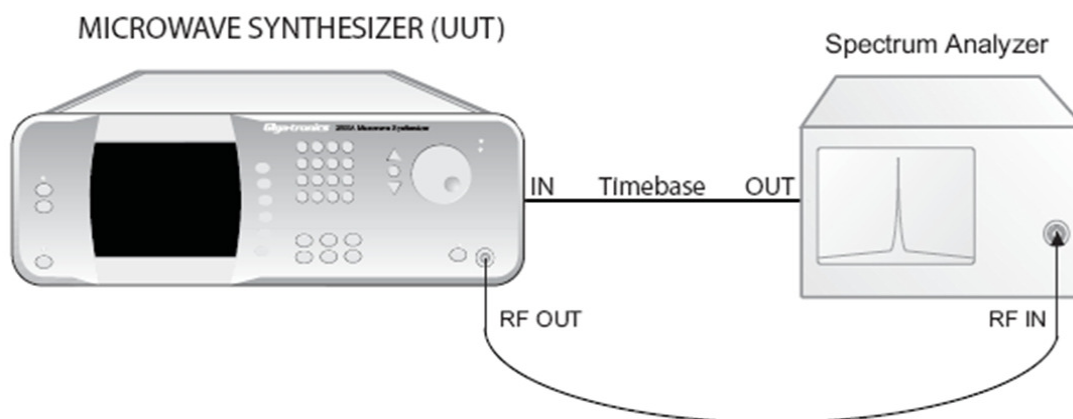

Figure 51: Step Attenuator Level Accuracy Test Setup
1.	Connect the equipment as shown in Figure 51 on page 110.